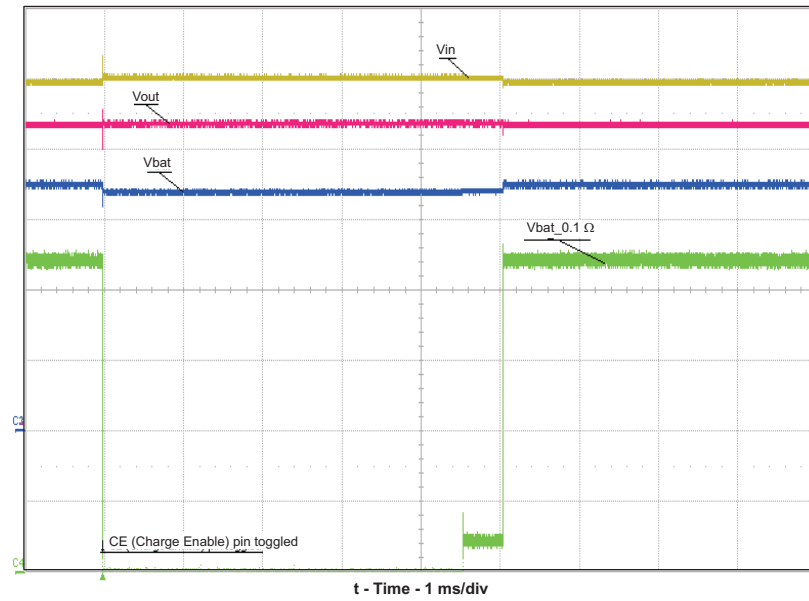

Figure 4. Charge Enabled, Pulled High, Then Low – Disables Charge
19. Allow the battery to continue to charge until the battery reaches voltage regulation, $\sim 4.2 \text{ V} \pm 40 \text{ mV}$ for bq24072/3/4/5/9(T) and $4.1 \text{ V} \pm 4 \text{ mV}$ for bq24079(T). Verify that the voltage is regulated as the current tapers over the next one-to-two hours depending on the battery capacity. See Figure 4 for a charge profile (time in plot is not proportional to actual charge time).
22. Turn off P/S#1, and allow the system load to discharge the battery until a refresh charge is initiated. Verify that the battery voltage dropped to $\sim 4.1 \text{ V}$ for bq24072/3/4/5 and to 4.0 V for bq24079(T) prior to refresh.